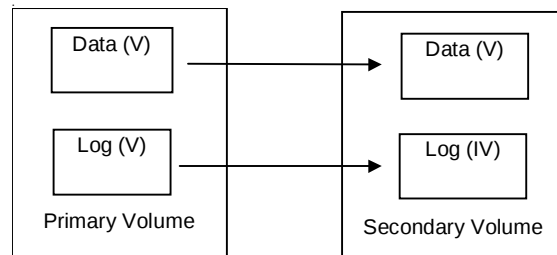

Figure 2-9: Relation Between Logs and Data in Paired Status
Figure 2-9 shows the relationship between redo log files (journal) and data files. If the S-VOL takes over from the P-VOL in the status shown in Figure 2-9 (where two errors have occurred), the secondary host leaves data (V) unprocessed in the roll-back processing and cannot be recovered completely. Therefore, the fence level of a redo log file must be defined as **data**. Once the fence level is set to **data**, the P-VOL returns an error if data is inconsistent when a write request is issued by the host. Since the writing into the data file has not been executed due to a write error of the redo log file, the log file stays consistent with the data file. However, when the fence level is set to **data**, a write I/O error occurs even when operation is suspended due to an error in the S-VOL. Accordingly, the duplication becomes meaningless when the S-VOL takes over. Thus, applications using paired volumes with the **data** fence level should be able to handle write I/O errors properly. For example, Oracle creates multiple redo log files by itself (three by default). The fence level can be set to **data** when disk errors are permissible by creating multiple files.